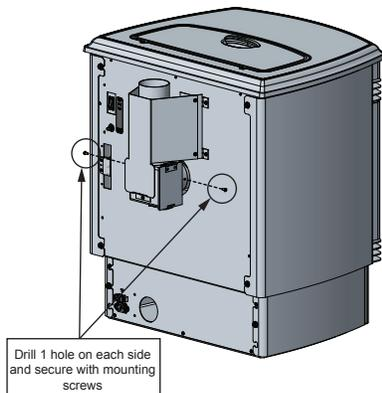

Figure 4
- Drill 2 holes with #26 drill bit (C3) through the Exhaust Outlet using the 2 holes already in the short horizontal pipe in the Top Vent Adapter as a guide. Secure using two mounting screws (C2) (Figure 4).